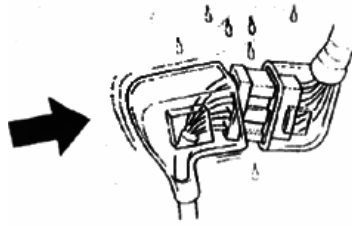

Fig. 4-3
6. As for the ones with protective plastic or rubber sleeve, install the sleeve while removing. (Fig. 4-3)